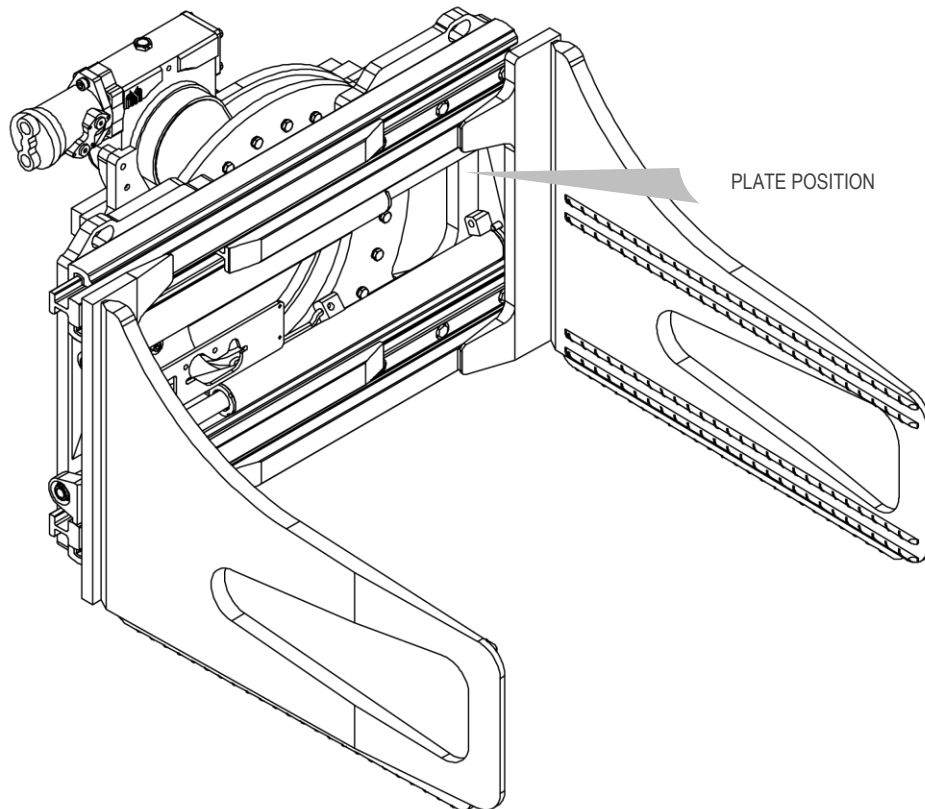

Figure 1
Table 1) located on the equipment (the location of the rating plate may vary depending on the equipment, see Figure 1). Always refer to the serial number.
5. For handling, use straps or chains suitably sized in relation to the weight of the equipment as indicated on the plate (see *Figure 1* and
11. Connect the hydraulic circuit, ensuring that the operating pressure of the lines is greater than or equal to that indicated on the rating plate (see *Figure 1* and *Table 1* on page 6).
- For handling, use straps or chains that are suitably sized in relation to the weight of the equipment as indicated on the plate (see *Figure 1* and *Table 1* on page 6).